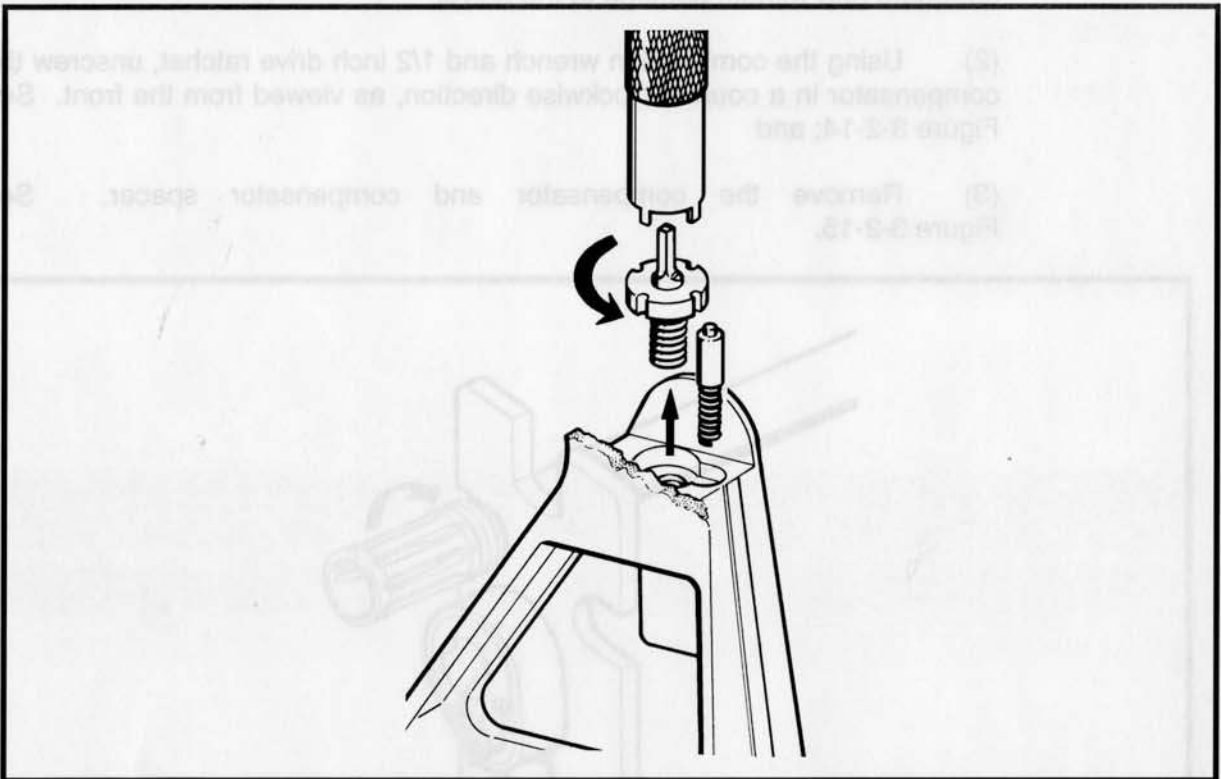

Figure 3-2-16 Removing the Front Sight Components
- (1) Position the front sight post adjusting tool over the post and press down to depress the detent;
- (2) Unscrew the front sight post in a counter-clockwise direction, as viewed from above; and
- (3) Remove the post, detent and spring. See Figure 3-2-16.